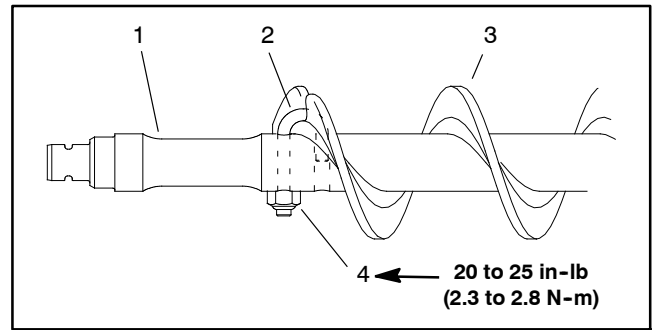

Figure 55
- C. Remove lock nut and J-bolt from both ends of the brush (Fig. 55).
1. If brush was removed from shaft, slide brush onto shaft while rotating brush. Secure brush to shaft with two (2) J-bolts and lock nuts. Make sure that the J-bolts are installed with the threaded portion on the outside of the brush (Fig. 55). Torque lock nuts from **20 to 25 in-lb (2.3 to 2.8 N-m)**.